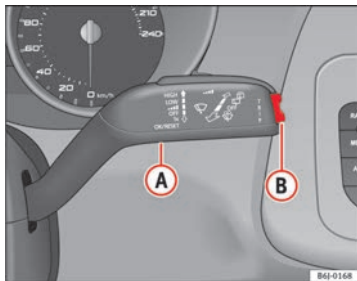

Fig. 34 Windscreen wiper lever: button A and rocker switch B
- With the ignition switched on, briefly press button ⇒ fig. 34 **A** on the windscreen wiper lever to move from one memory to another.